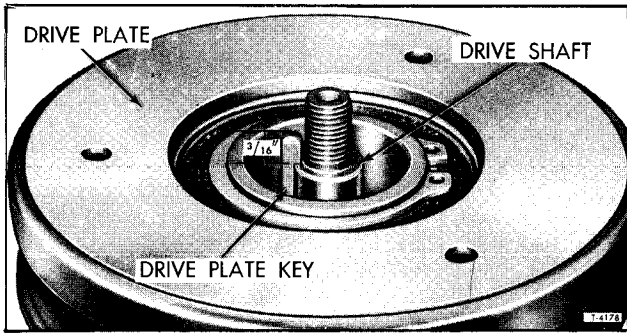

Figure 37-Drive Plate Installed In Keyway
1. Insert the square hub and drive plate key into the keyway in the drive shaft allowing it to project approximately  $3/16$ " out of the end of the keyway (figure 37).